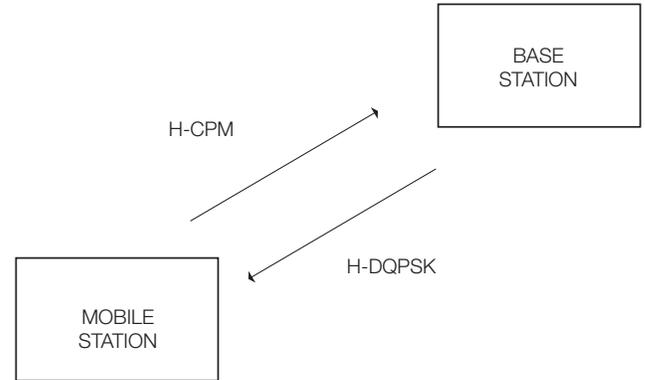

Figure 2. Inbound and Outbound modulation types.
- Phase 2:** To improve spectrum utilization, Phase 2 has been developed using a 2-slot TDMA scheme. Phase 2 uses the AMBE+2 voice codec to reduce the needed bitrate so that one voice channel will only require 6000 bits per second (including error correction and signaling). The uplink uses Harmonized Continuous Phase Modulation (H-CPM) allowing the use of non-linear amplifier in the radio whereas the downlink uses Harmonized Differential Quadrature Phase Shift Keyed Modulation (H-DQPSK) and requires linear amplifiers in the base stations. See Figure 2. Unfortunately, Phase 2 is not backwards compatible with Phase 1 (due to the TDMA versus FDMA operation).